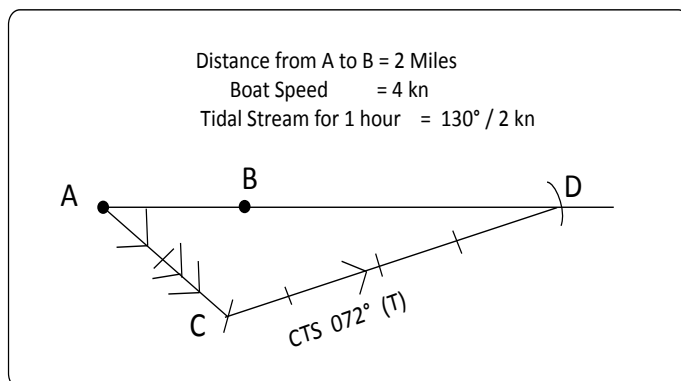

Fig 5 Course To Steer for a period of time less than 1 hour
Looking at Fig 5 it can be seen that a boat leaving A on a heading of 072° (T) will move along the ground track AD and will therefore pass through the destination, B before the full hour has passed.